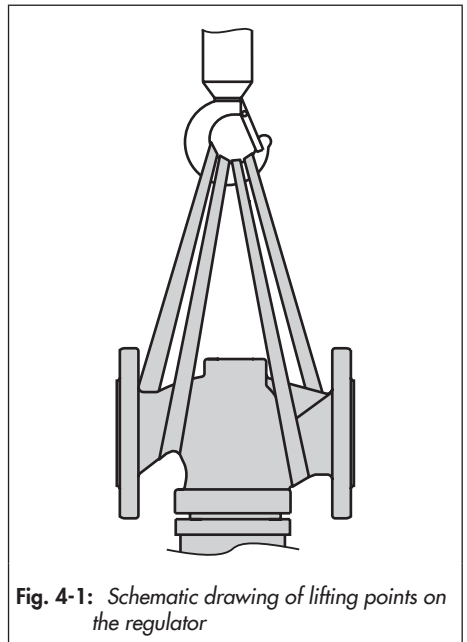

Fig. 4-1: Schematic drawing of lifting points on the regulator
- Use a hook with safety latch to secure the slings from slipping off the hook during lifting and transporting (see Fig. 4-1).
hook) of the crane or forklift (see Fig. 4-1).